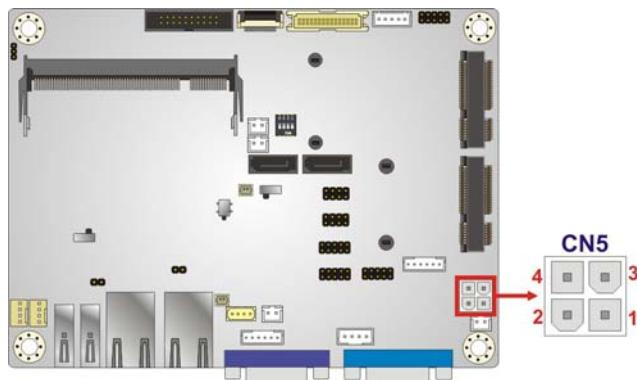

Figure 3-2: +12V DC-IN Power Connector Location
**CN Location:** See Figure 3-2